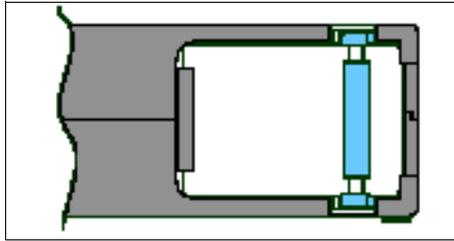

Figure 2-18 Correct leader pin placement
- ▶ When there is evidence of poor handling or shipping, ensure that the cartridge leader pin (Figure 2-18 on page 48) is undamaged before inserting the cartridge in a drive or library, because a bad cartridge can damage a drive.